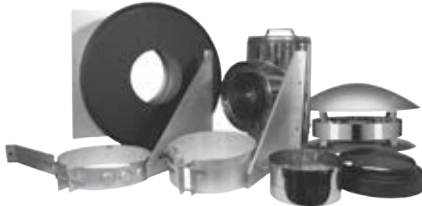

**Figure 1**
- Determine the minimum chimney height above the roof line. Building codes require a minimum of 3' above the roof penetration and at least 2' higher than any portion of a building within 10'. See Figure 1. The termination cap is installed above that point. If chimney is more than 5' above the roof penetration a Roof Brace is required.